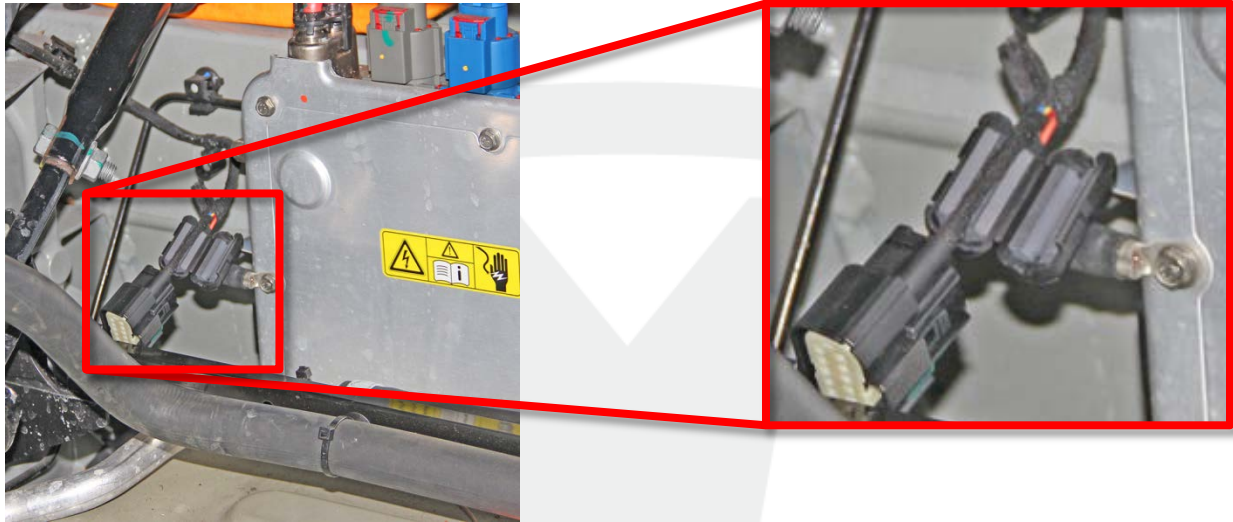

Figure 4
7. Install a ferrite bead onto the wrapped wires as close to the connector as possible (Figure 4).